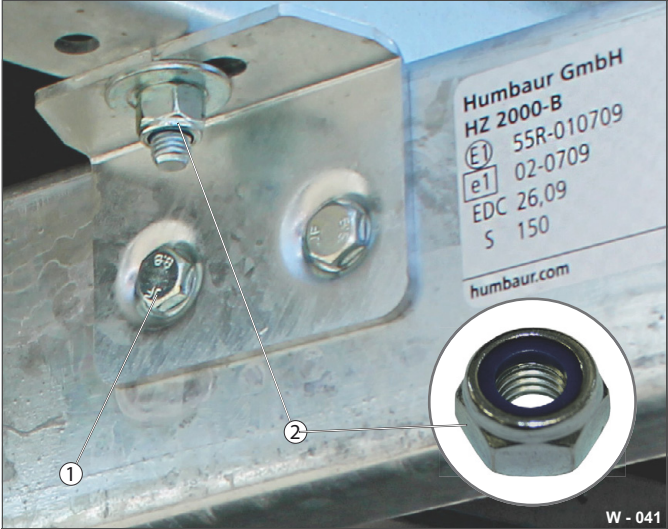

Fig. 6 Strength / design
- You will find the information on the screw connections themselves (inscription 8.8 or 10.9). Example see (Fig. 6 /1).
- Only use self-locking nuts (Fig. 6 /2) once - the clamping effect of the plastic ring is reduced if you use it again.